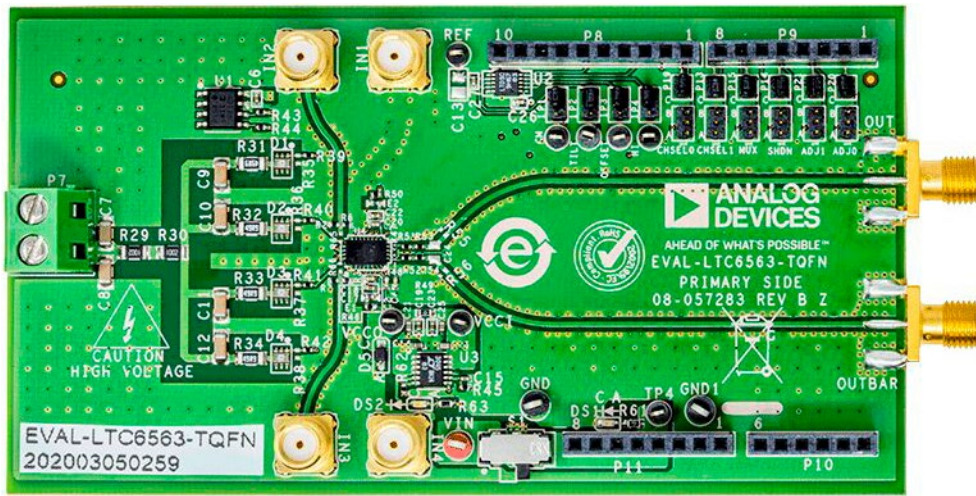
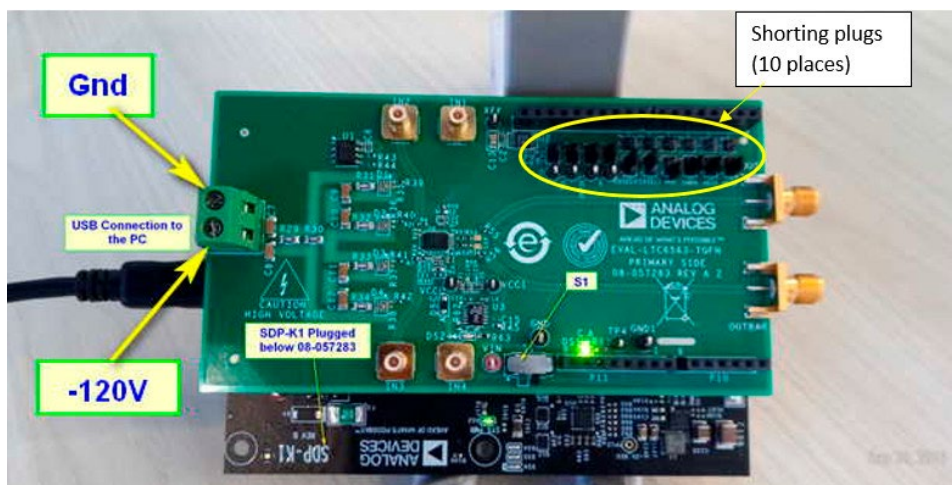

Figure 2. LTC6563 EVAL Board Top Side
Figure 4. SDP-K1 Connection (WARNING: HIGH VOLTAGE PRESENT!)
3. Plug the SDP-K1 onto the bottom of EVAL-LTC6563-TQFN as shown in Figure 4 (if not already).
- a. Move EVAL-LTC6563-TQFN S1 switch to the right (towards connector P11, see Figure 4) to power the EVAL board using the SDP-K1 if not already.
7. Apply the external -120V DC power supply to P7 (pin 2) with pin 1 tied to power supply ground. This is the appropriate bias voltage for the APDs installed on the board. The connector and passives are rated up to 300V . See Figure 4 for the proper P7 high voltage polarity connection.
| CONDITION/SETUP | STAND-ALONE OPERATION (See Figure 2) | OPERATION WITH SDP-K1 (See Figure 4) | NOTES |
2. Apply the external -120V DC power supply to P7 (pin 2) with pin 1 tied to power supply ground. This is the appropriate bias voltage for the APDs installed on the board. The connector and passives are rated up to 300V. See Figure 4 for the proper P7 high voltage polarity connection.